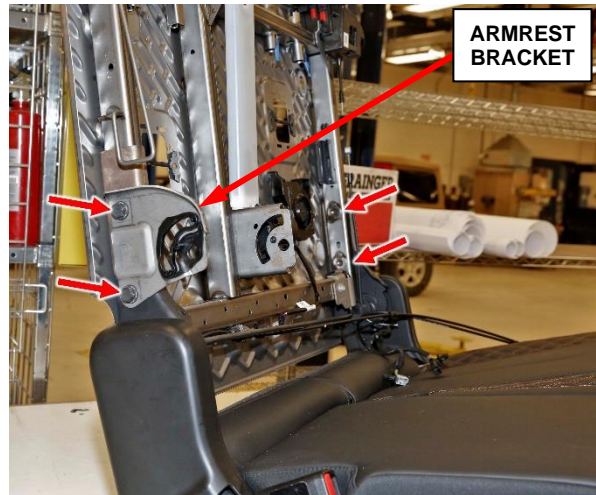

Figure 38 – Seat Back Frame
- 44. Remove the four bolts two on each side from the seat hinges and remove the armrest bracket from right side (Figure 38).
61. Position the seat back frame and armrest bracket to the seat hinges then install the four seat back bolts two on each side. Tighten the bolts to 60 N·m (44 ft. lbs.) (Figure 38).